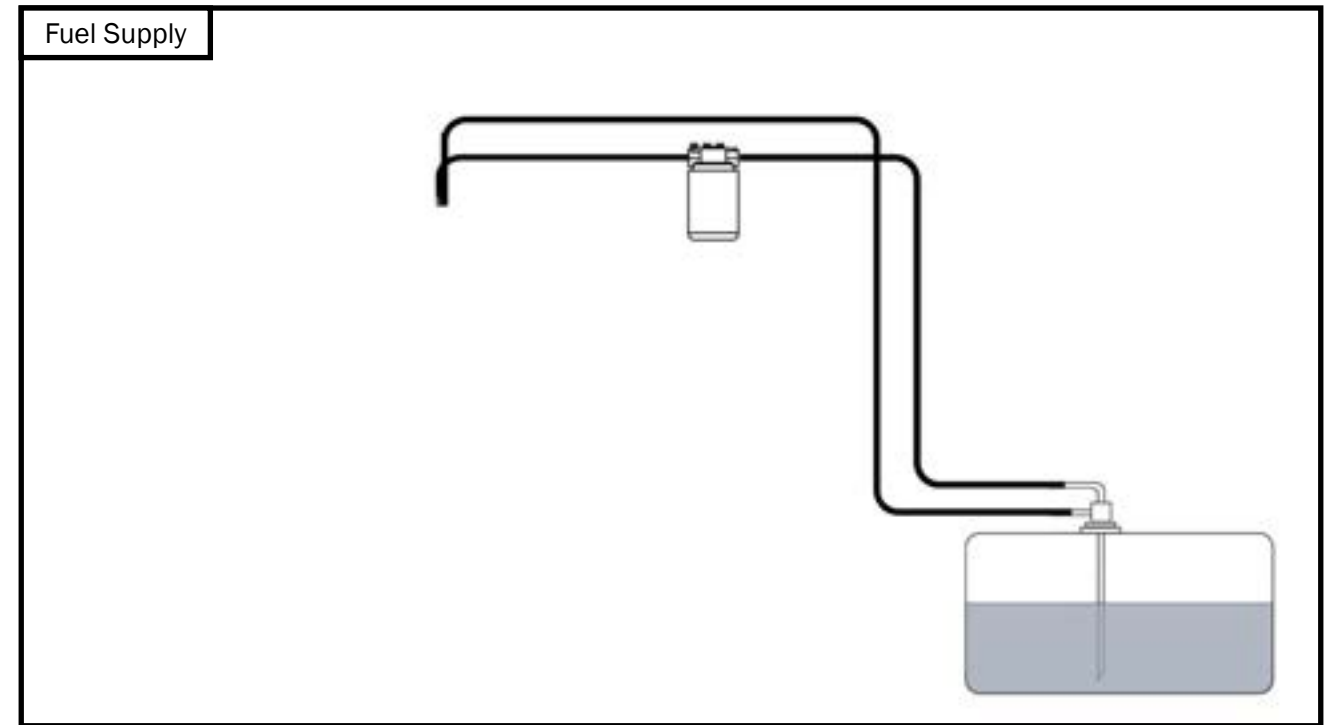

Figure 42
- The combined length of the supply and return fuel lines should not exceed 100 feet in total length. Reference Figures 42 & 43.